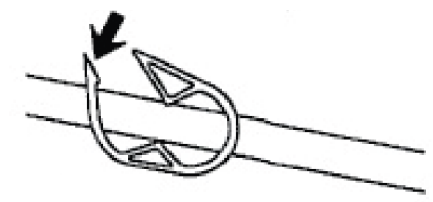

Figure 1-9: Open the clamp
1. Open the clamp by pushing on the serrated end (Figure 1-9 on page 15).